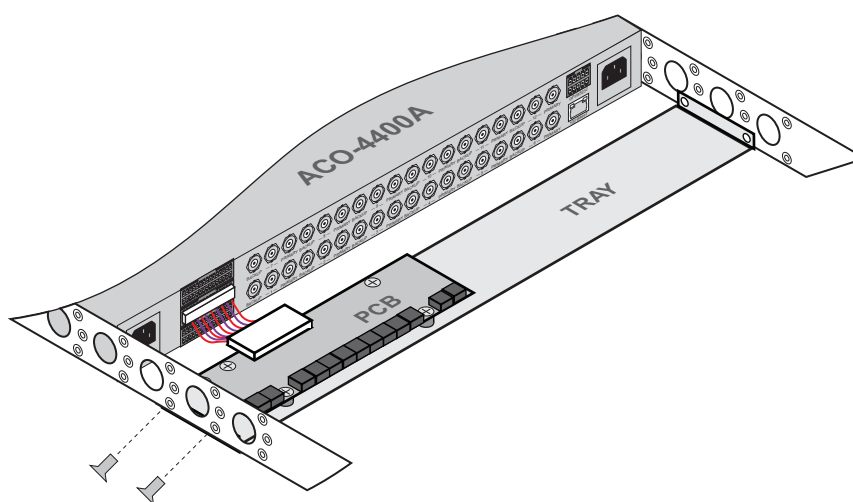

Figure 2.6 Connecting the Breakout PCB to the ACO-4400A Rear Panel
2. Connect the other end of the same Interface Cable to the middle 30-pin Connector on the ACO-4400A rear panel. Refer to **Figure 2.6**.